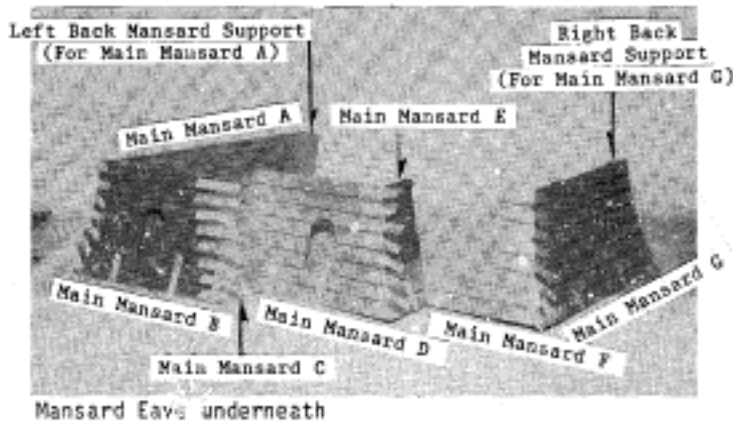

Figure 34
3. Tightly assemble Mansards by interlocking notches on the edges of the Mansards and interlocking Mansards to the Mansard Eaves as in Figure 34. Flex the Mansard roof pieces so the score lines in the good side open a little more. Use lots of tape and glue. The bad side of the Mansard goes to the outside.
1. Locate Roof Trim and Tower Roof Trim pieces (Sheets CA-5,8,11,13,18,20,23,30). You may want to remove the roof trim pieces alphabetically and numerically as you install them for identification purposes. The Walls, Mansards, Roof Trim, and Bracket Plates all have corresponding identification letters. See Figure 34.